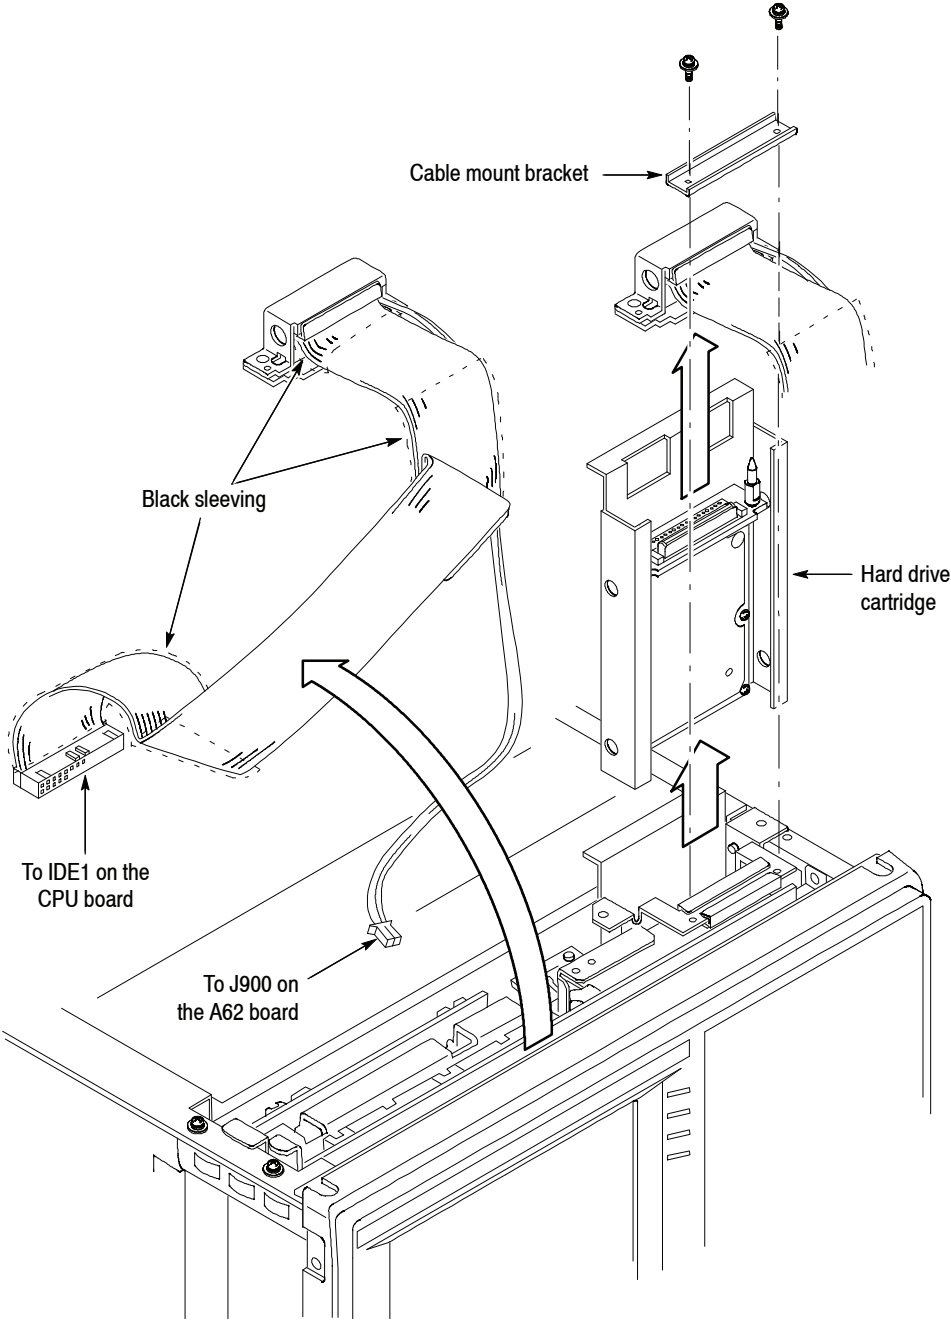

Figure 6-18: Hard drive cartridge removal
4. *Remove the hard disk cable assembly:* See Figure 6-18 on page 6-37.
5. *Remove the hard drive cartridge:* See Figure 6-18 on page 6-37. Pull up the hard drive cartridge from the instrument.